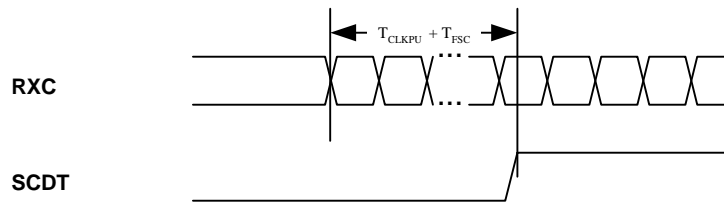

Figure 7. Wake-up on Clock Detect
- Data is active (i.e. not tri-stated) but not valid yet. Data and controls are valid only when SCDT goes high. See T_{FSC} and Figure 7.